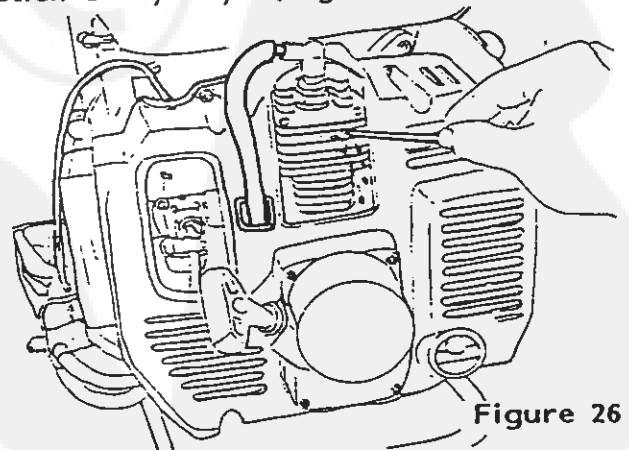

Figure 26
2. Always keep cylinder fins clean. Clogged cylinder fins will cause engine to overheat. Clean out grass, mud, leaves, and other debris with a wooden stick every day. (Figure 26)